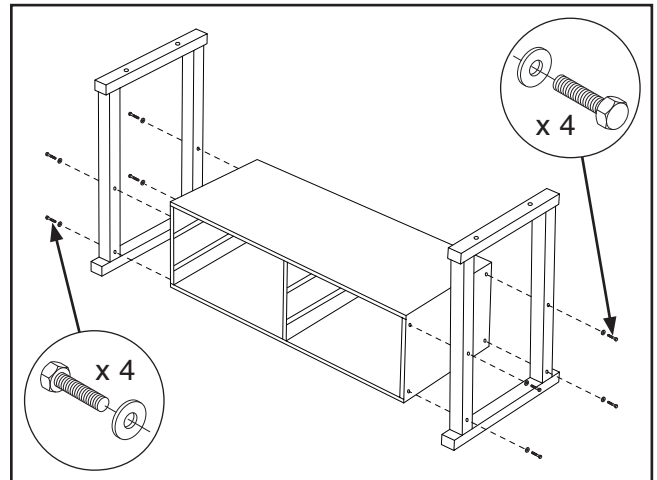

Figure 9. Attaching legs to drawer cabinet.
9. Attach drawer cabinet to workbench legs with (8) M8-1.25 x 70 hex bolts and (8) 8mm flat washers (see **Figure 9**). Do not fully tighten.